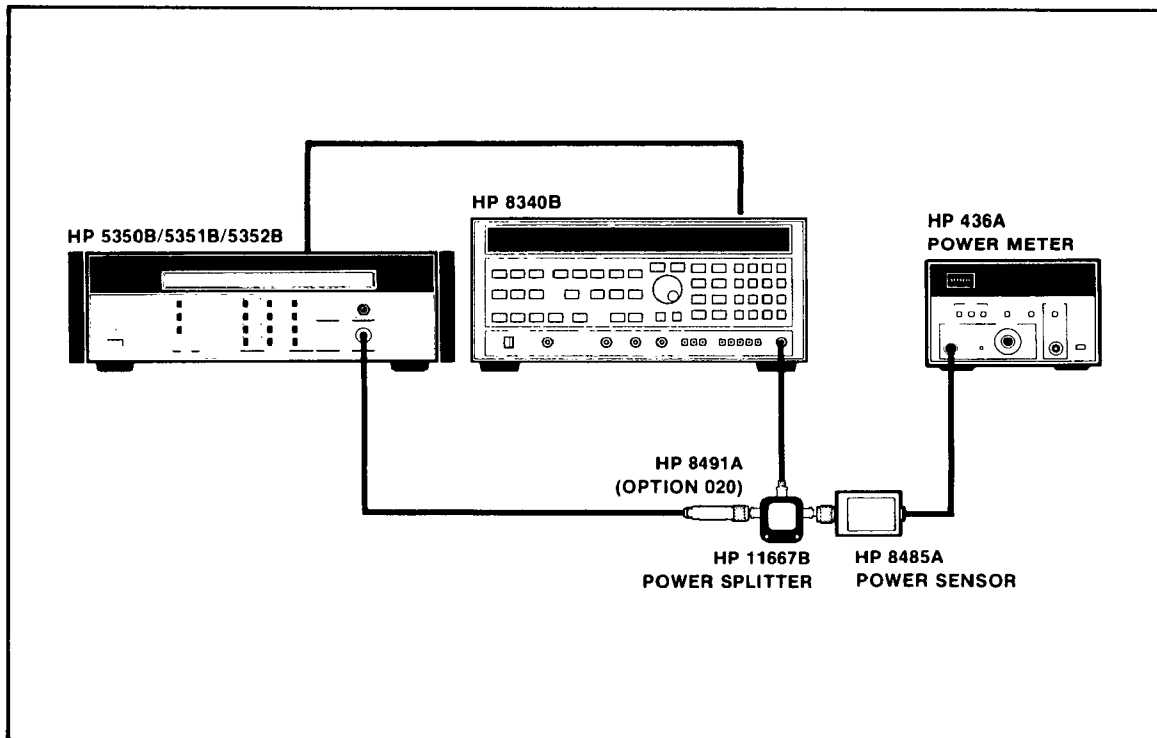

Figure 5-3. IF Bandpass Sensitivity Adjustment Setup
- b. Set up the counter and the test equipment as shown in *Figure 5-3*.